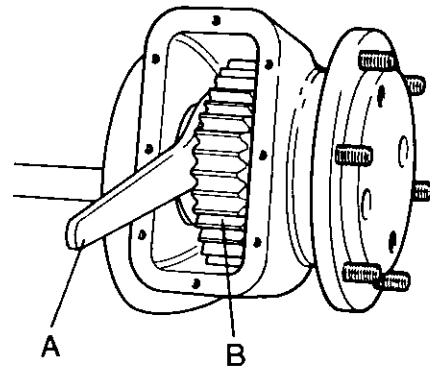

FIGURE 113. TIGHTENING RING NUT
- (c) Use the feeler gauge to measure the gap between the circlip and the end cover. Do this in three different positions around the cover, see Figure 113, to find smallest gap. Make a note of the smallest measurement. Remove the circlip and end cover.